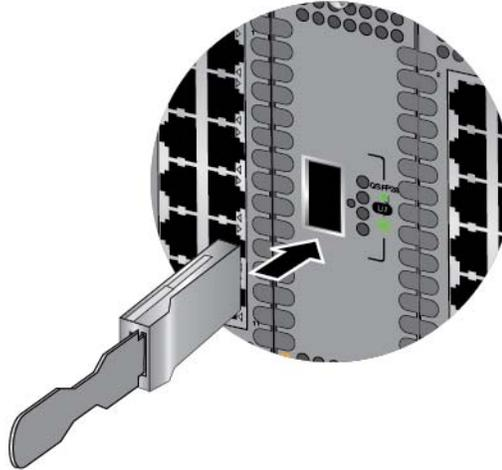

Figure 105. Installing an 100Gbps QSFP28 Transceiver in the XEM2-1CQ Line Card
- ❑ XEM2-1CQ line card - Position the 100Gbps QSFP28 transceiver's handle on the right. Refer to Figure 105 on page 182.